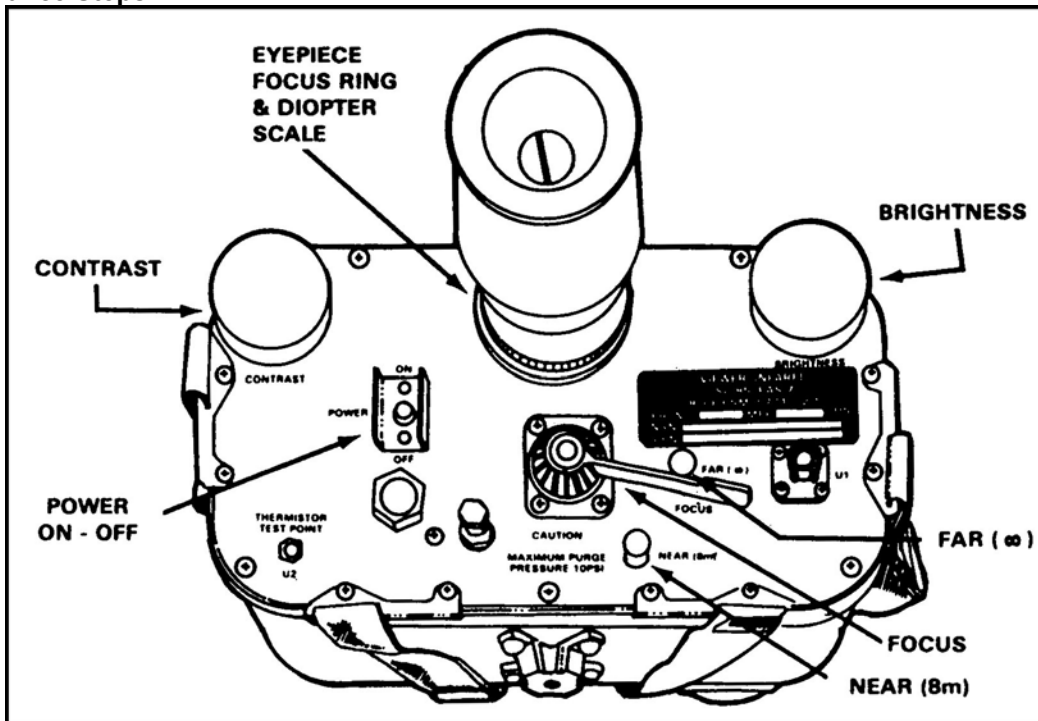
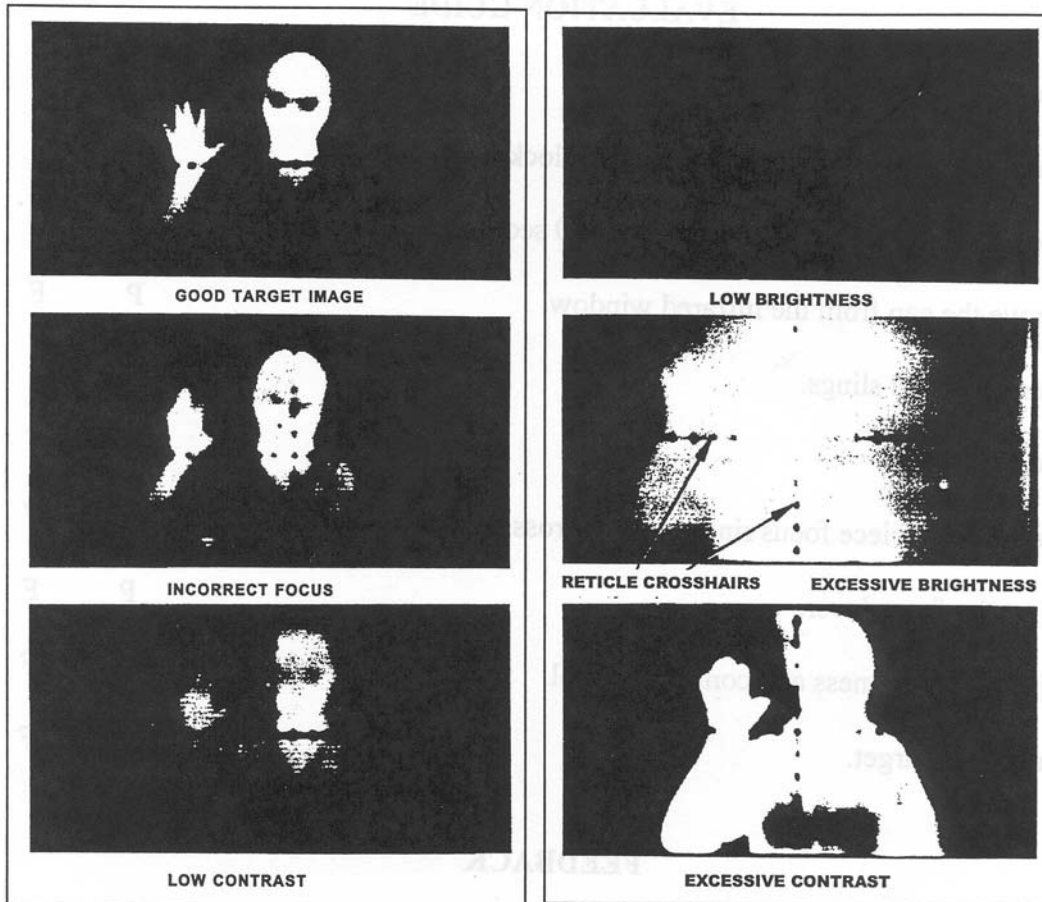

Figure 2. AN/PAS-7 controls.
Figure 4. Selection of the best target image.
3. Place the power switch in the ON position. A faint ticking of the oscillating mirror can be heard. Wait about 30 seconds after turn-on for the CRT heater to warm up (Figure 2).
- (1) Rotate the eyepiece focus ring (Figure 2) until the crosshairs are in the best focus.
- (2) Once adjusted, no further adjustment should be necessary during the operation.
- h. Rotate the contrast control with the left forefinger until the desired contrast between target image and background is obtained (Figure 2).
- i. Adjust the focus lever with the right thumb (Figure 2) for the best target image (Figure 4).
NOTE: Improper focusing can lead to one or more of the examples shown in Figure 4. If the viewer is focused properly, the target presents a good display.